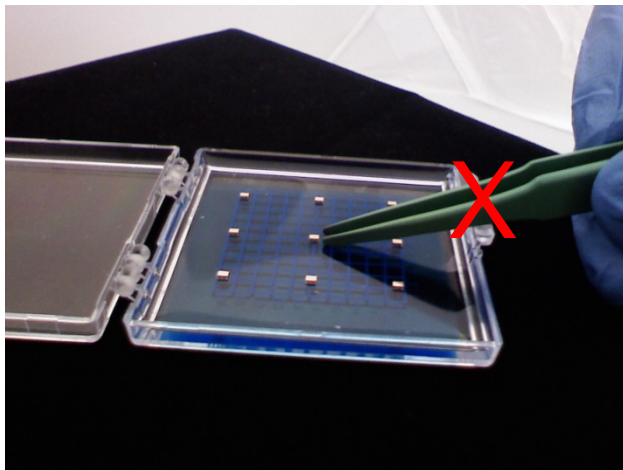
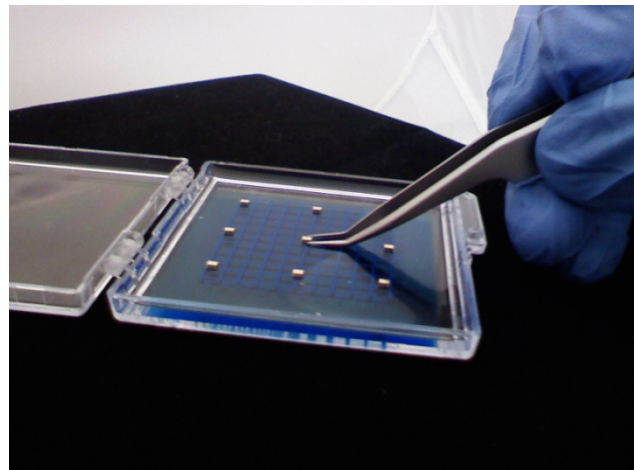

Fig. 1
Fig. 2
Typical laboratory tweezers with large tweezer blades are not compatible with extracting HV14 modules. Referring to Fig. 1, it is obvious that the tweezer blades are larger than the HV14 module and are improperly sized for extraction and handling. Fine-tipped tweezers with small, pointed blades are better suited for extracting HV14 modules. Referring to Fig. 2, the size of the tweezer tip relative to the size of the HV14 is commensurate for extraction and handling.
1. Straddle the HV14 module with the fine-tipped tweezers [Part ID: TDI 5C-SA Precision Tweezer] [Fig. 2]
2. Establish contact between the bottom surface of the blades and the adhesive surface [Fig. 2]